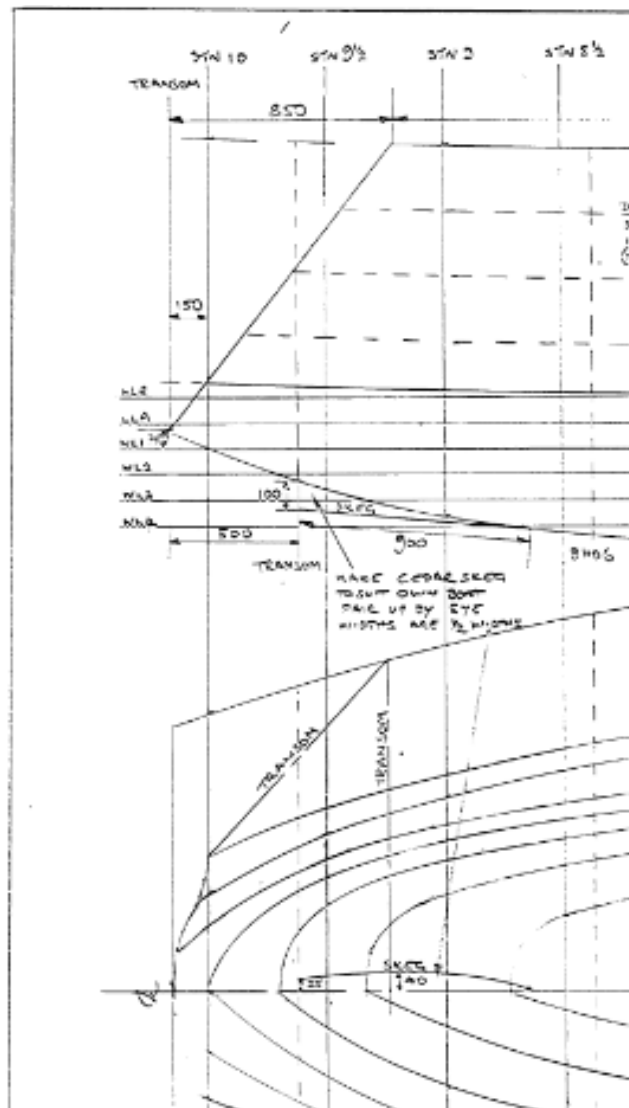

Figure 18: Detail from Eclipse Lines Plan
- Figure 18: Detail from Eclipse Lines Plan
The Plans give offsets for a transom bulkhead but this is a bulkhead which aligns with the aft edge of the skeg. That is between STN 9½ and STN 10 in Figure 18. A bulkhead in this position is not a full bulkhead since it will not extend to the sheer line.
We actually want a transom bulkhead which aligns with the aft edge of the sheer gunwale, i.e. between STN 9 and STN 9½ in Figure 18; this gives us an important reference point from which we can determine the geometry of the transom steps.
The transom is 820mm from the stern; the plans (Figure 18) say 850mm but we made a mistake in setting up the transom frame (aft of STN 10) so that the LOA is actually 3cm shorter than it should be!